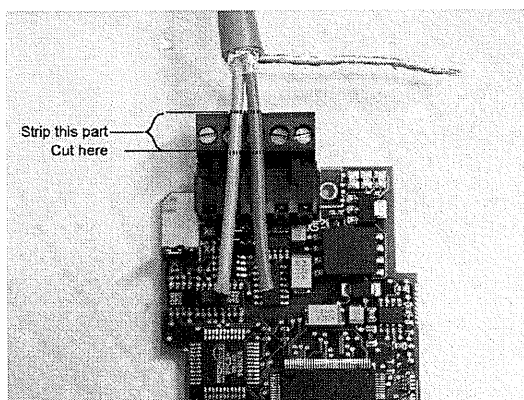
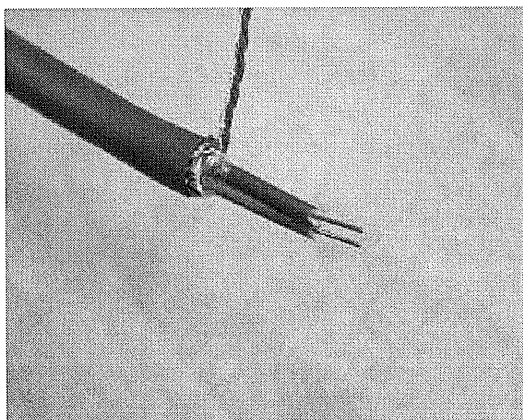

Figure 4-4. Preparing the Profibus Cable
Figure 4-5. Preparing the Profibus Cable
3. Leave no more than 1 cm of the red and green data cable outside the terminal block and strip the data cables at about 0.5 cm to fit in the terminals. See Figures 4-4 and 4-5. Do this for both bus cables.
2. Leave no more than 1 cm of the red and green data cable outside the terminal block and strip the data cables at about 0.5 cm to fit in the terminals. See Figure 4-4 and Figure 4-5. Do this for both bus cables.